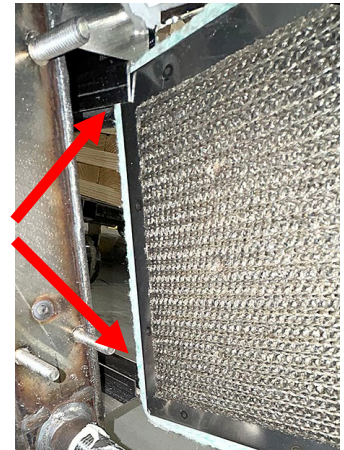

Figure 5
18. Carefully slide the replacement burner into the rails starting at the top and lifting slightly up on the bottom (see Figure 5). Ensure that the insulation is not torn or damaged.